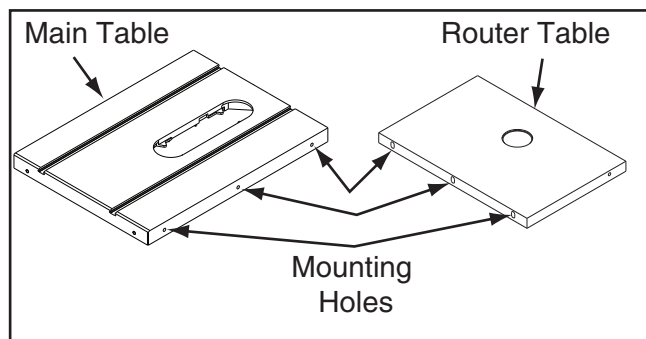

Figure 4. Mounting holes in router table and saw table.
2. Remove the right extension wing of the saw table and use the mounting holes shown in **Figure 4** to install the router table in its place.